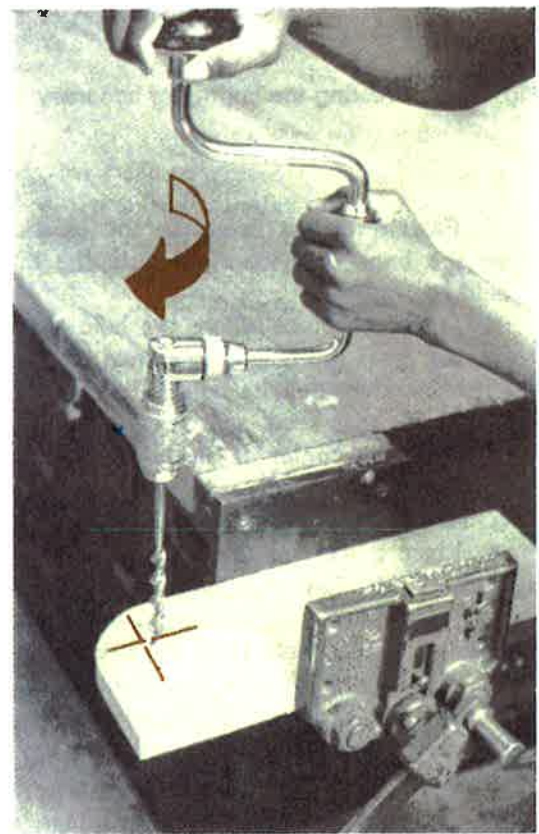

Fig. 18-23. Boring a hole vertically.
5. Place the feed screw at the spot marked for the center of the hole. Make a few turns with the brace to start the hole (Fig. 18-23).